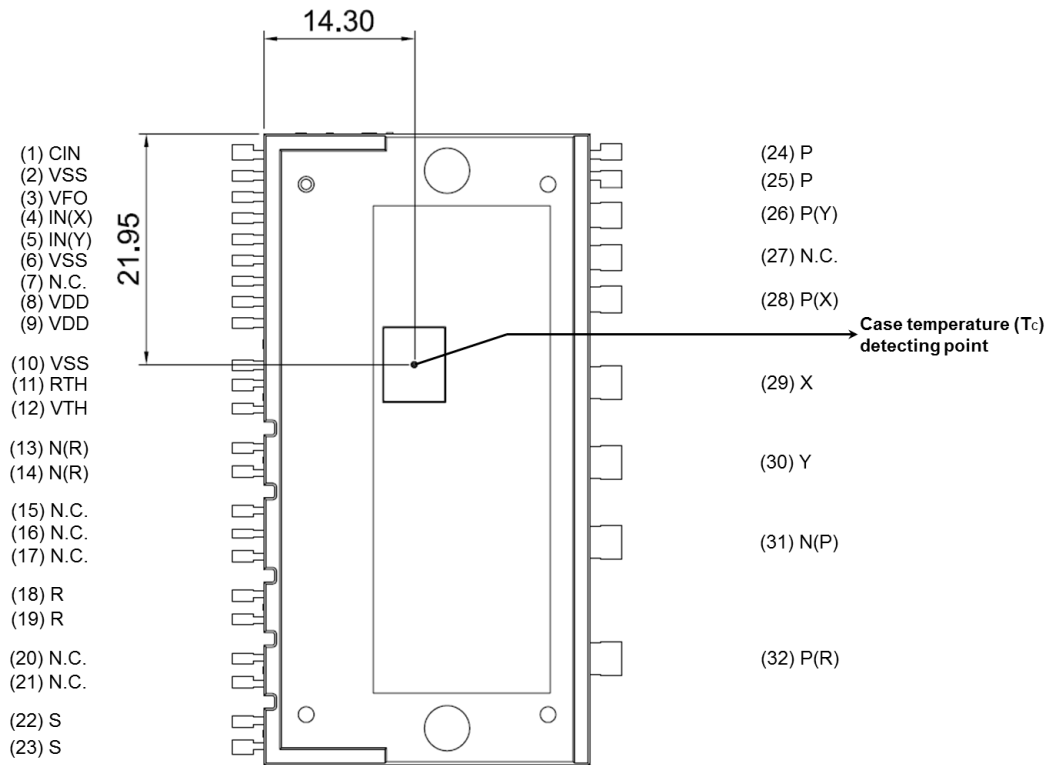

Figure 1. Pin Configuration – Top View
2. For the measurement point of case temperature ( $T_c$ ), please refer to Figure 1. DBC discoloration and Picker Circle Printing allowed, please refer to application note AN-9190 (Impact of DBC Oxidation on SPM® Module Performance).